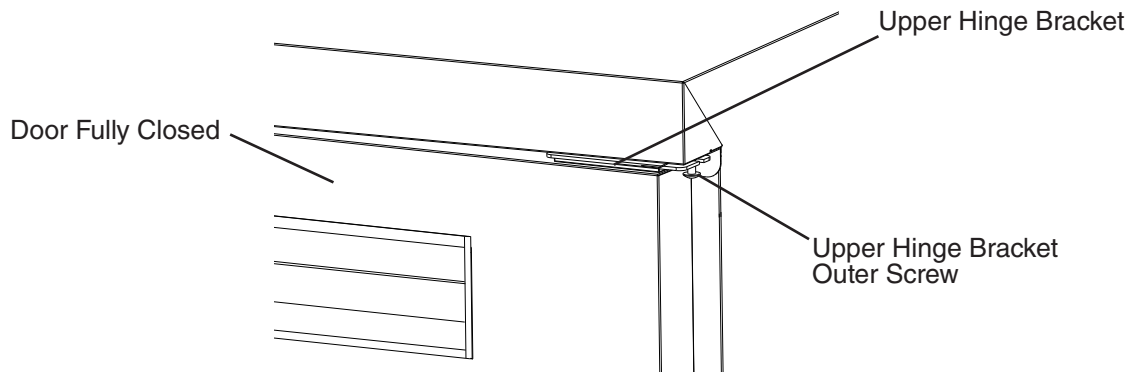

**Fig. 35**
18) Close the door and tighten the upper hinge bracket outer screw. See Fig. 35.